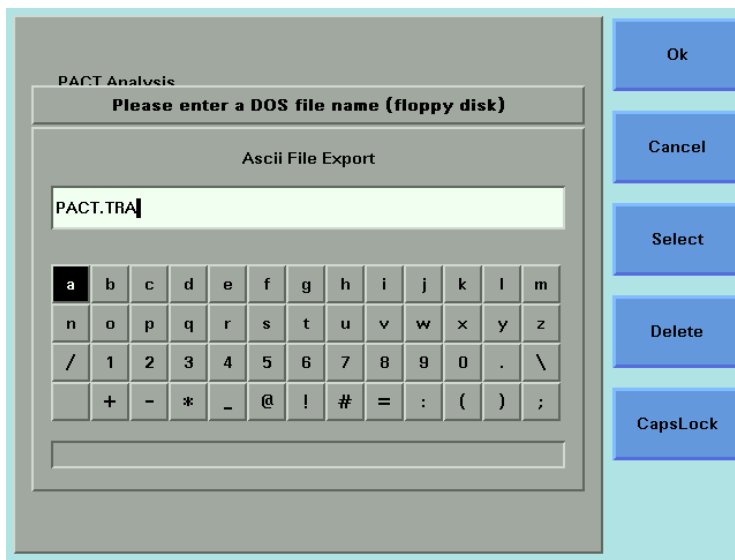

Figure 191 The File Name Editor
- 6 Press *Enter*. The File Name Editor, as shown in **Figure 191** on page -310, appears.